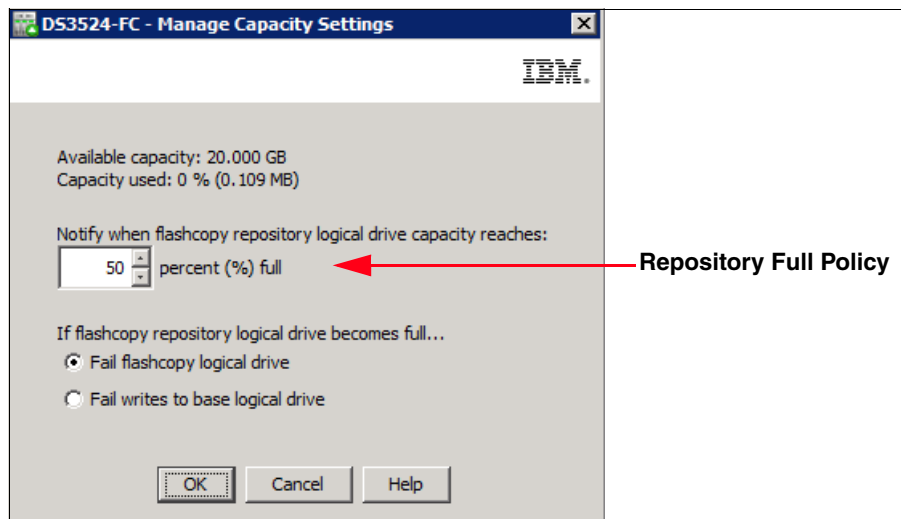

Figure 2-30 FlashCopy Repository Logical Drive - Properties: Capacity tab
5. On the next screen (Figure 2-30) you can view or set the following FlashCopy repository logical drive capacity properties. FlashCopy repository logical drive percentage full setting allows a threshold level to be set for the FlashCopy repository logical drive capacity. After the defined percentage is reached, a warning is issued, indicating that the repository is nearing its capacity. The default percentage setting is 50% of the FlashCopy repository logical drive's maximum capacity.